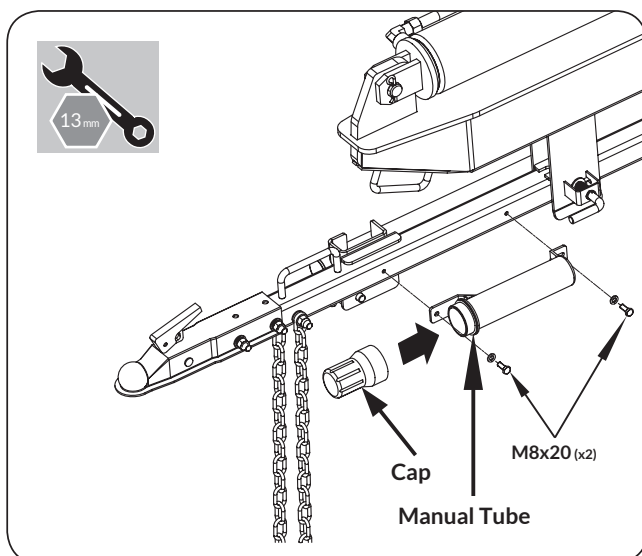

Figure 9
1. Remove the cap from the manual tube. Align the holes in the manual tube with the holes in the tow bar. Insert and tighten bolts and washers. (See **Figure 9**)